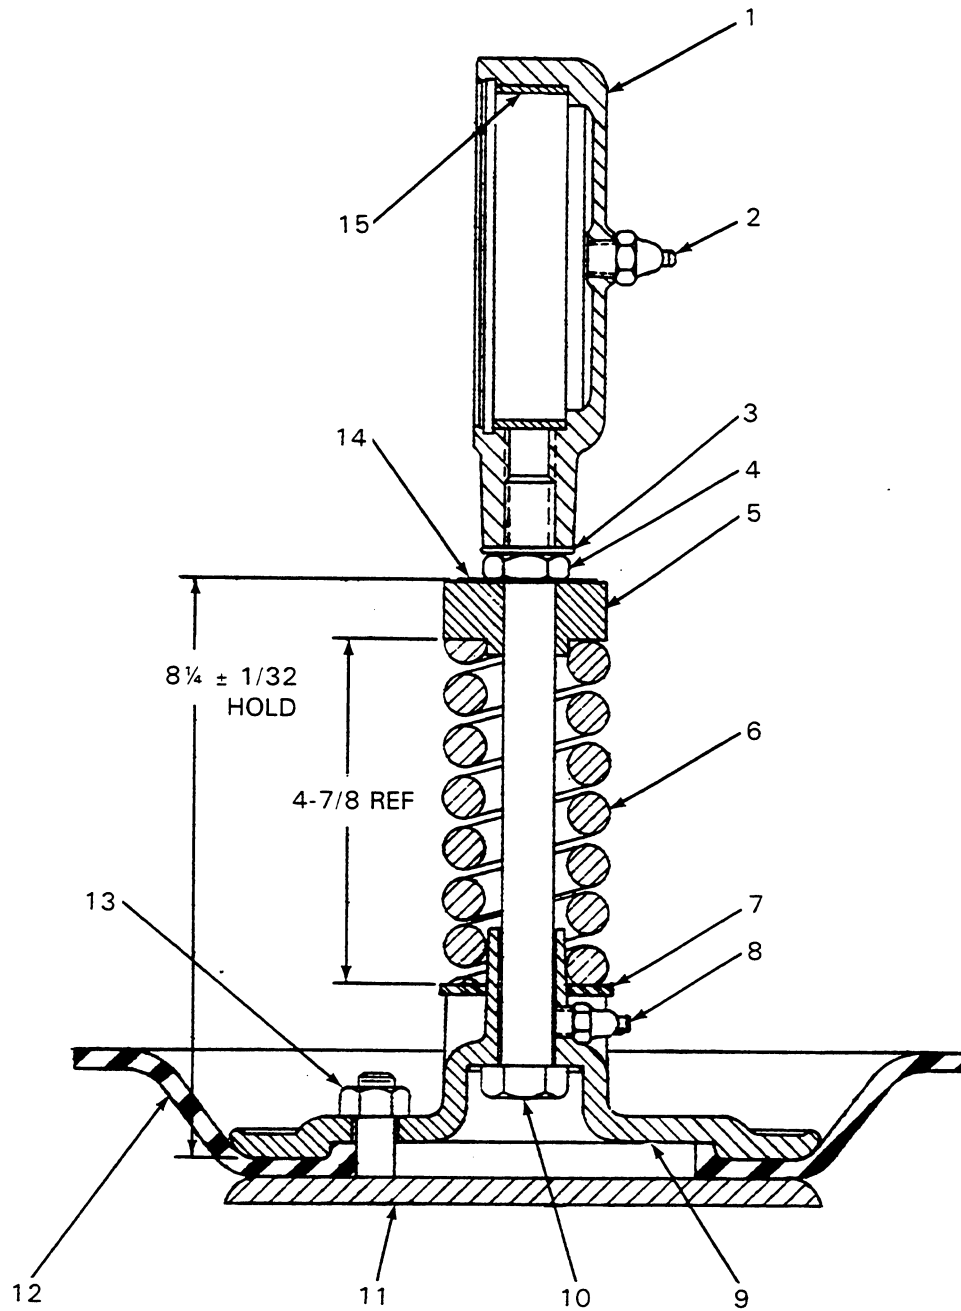

Figure 3. 5685-A Plunger Rod Assembly
**Plunger Rod Disassembly (See figure 3)**